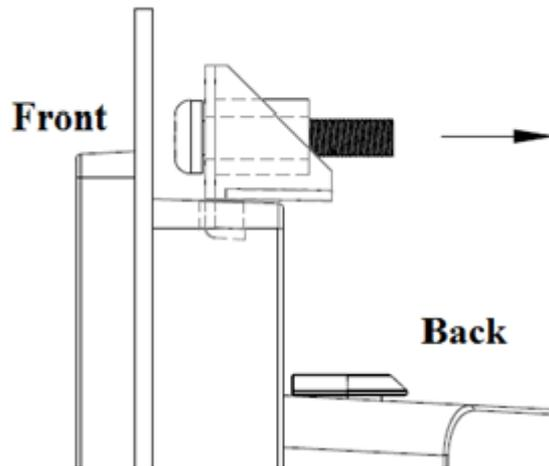

Figure 2.26 Hook Bracket Locations
- Put the hook brackets into the holes according to the arrow and hookup the machine. (See Figure 2.26)